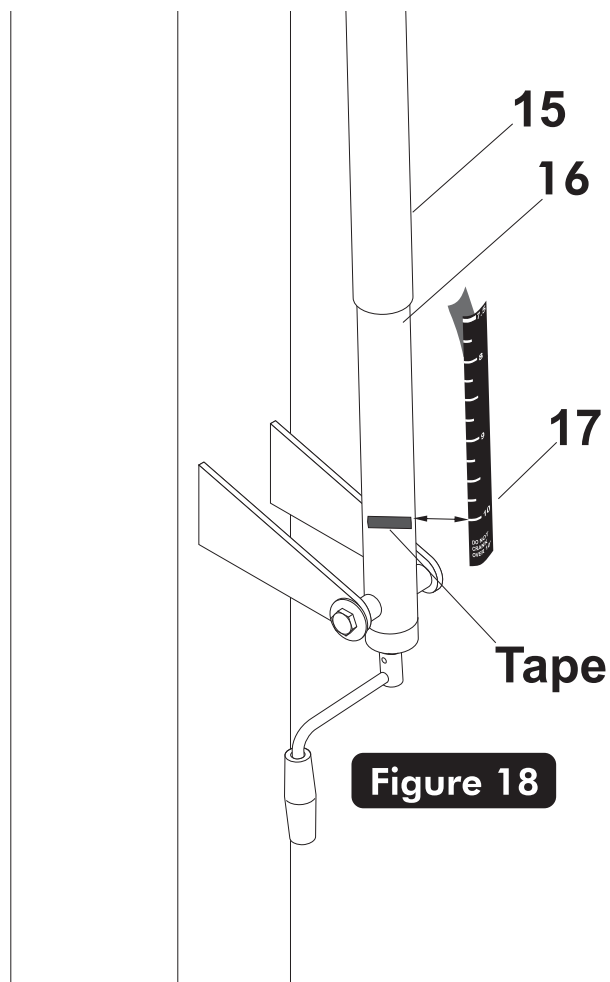

Figure 18
33. Remove the adhesive backing from the Height Decal (#17). Next, carefully align and stick decal to backside of steel actuator (#16) starting at the **10 ft mark first**. Be sure to keep the height decal straight and rub out all air bubbles. See **Figure 18**.